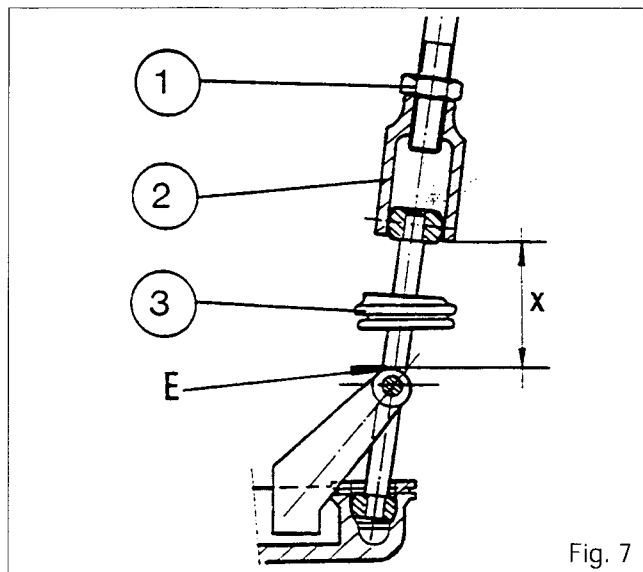

Fig. 7
41. Unlock nut (1). Adjust the sleeve (2) so as to obtain a dimension **X** between the base of the sleeve and shoulder «E» on the lever (see Fig. 7).
42. Tighten the nut to a torque of 50 Nm and position the dust cover (3).